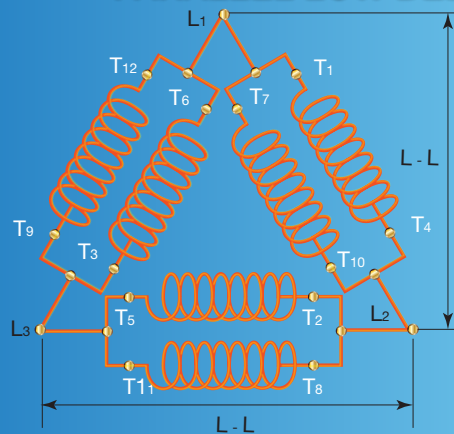

Figure 1D
6.4 SERIES LOW DELTA - As illustrated in **Figure 1D** each pair of coils are connected in parallel; this provides the lower voltage delta configuration. Note all connections are L - L with no center tap available.